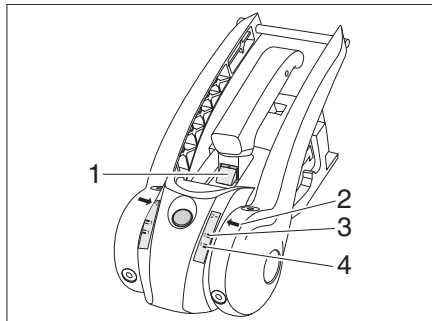

Fig. 170 Friction control of friction lining
- If the green marking (Bild 170,1) is visible, the friction linings at the front and back are OK. If the green marking is no longer visible, the friction linings have to be replaced.
- If the arrow (Bild 170,2) is below the softdock marking 1-green (Bild 170,4), the friction linings on the right and left are OK. If the arrow (Bild 170,2) is above the softdock marking 1-red (Bild 170,3), the friction linings have to be replaced.
- If the green marking (Bild 170,1) is visible, the coupling ball is OK. If the green marking is no longer visible, the diameter of the coupling ball < 49 mm and the coupling ball has to be replaced.